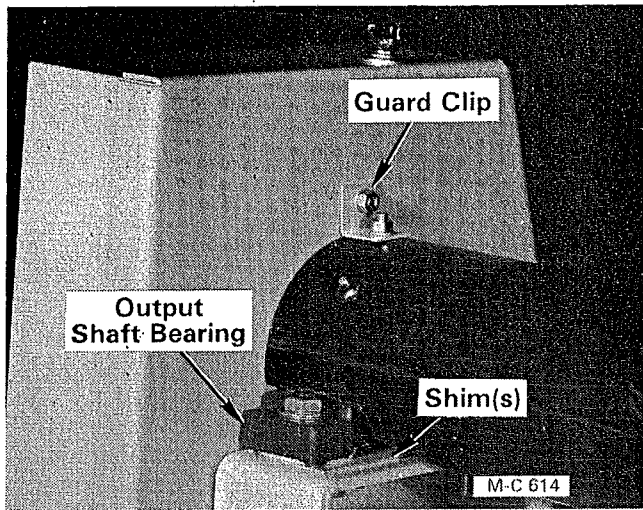

Figure 27
- A. Loosen the idler spring adjusting rod to relieve belt tension. Remove the capscrew securing the output shaft guard clip to the belt guard back plate, see Figure 27.
- B. **Pulleys are out of alignment vertically.** Loosen the output shaft bearing mounting capscrews and raise or lower the output shaft and bearing as required by adding or removing shims under the bearing, see Figure 27 and 28.
- C. **Pulleys are out of alignment horizontally.** Loosen the output shaft bearing mounting capscrews and move the output shaft and bearing forward or back as required. The bearing mounting holes and bracket are slotted for this purpose, see Figure 27 and 28.